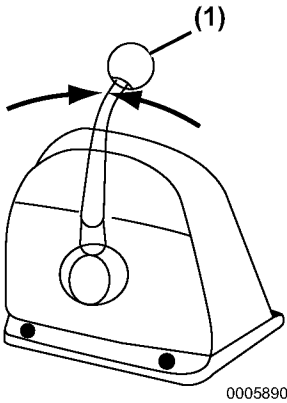

Figure 1
3. Put the remote control shift lever in the NEUTRAL position (**Figure 1, (1)**).